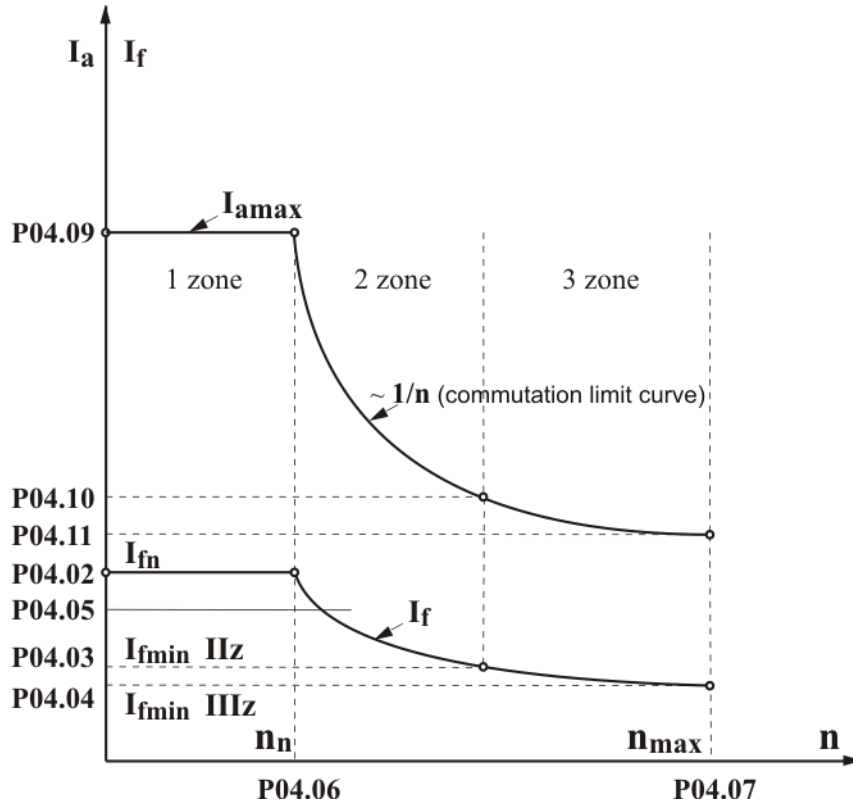

Figure 15 Graphic of dynamic current limit characteristic
- **Parameter P04.09** – limit armature current at nominal field in the first zone (**P04.02**). It is defined in percentage of the armature nominal current **I_{aNOM}**. The curve of dynamic current limitation according to the speed is given in **figure 15**. In the first zone value of current limitation is constant and in this zone the motor torque is constant, too;
motor power in this zone is constant. The curve of dynamic current limitation in the second zone is given in **figure 15**;